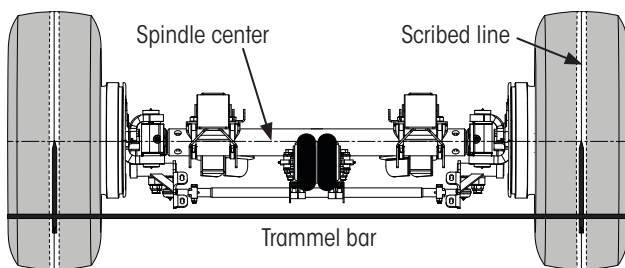

Figure 33: Measuring X and Y dimensions
**IMPORTANT:** To ensure consistent measurements, X and Y measurements should be made at the same height, center of spindle, on the tires (Figure 33). **This measurement should always be taken with the suspension at ride height.**